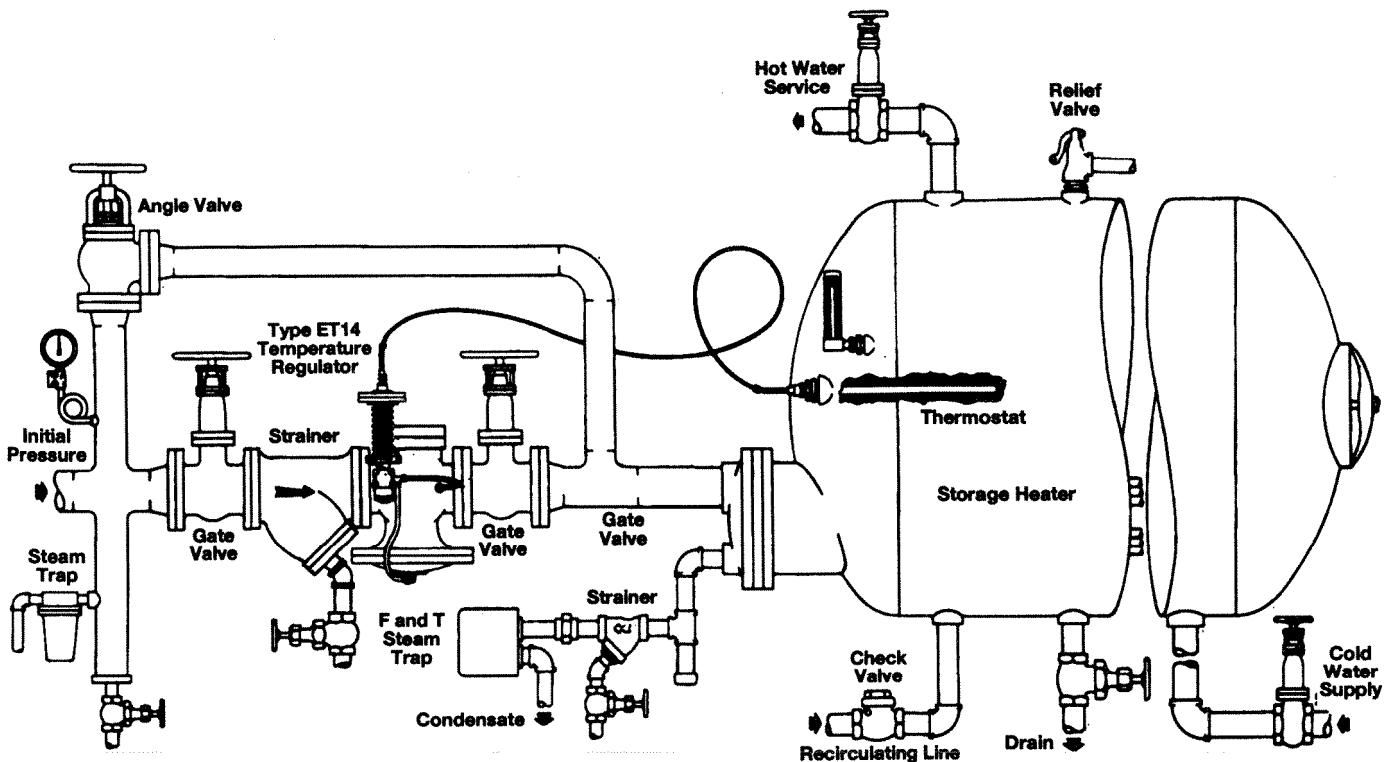
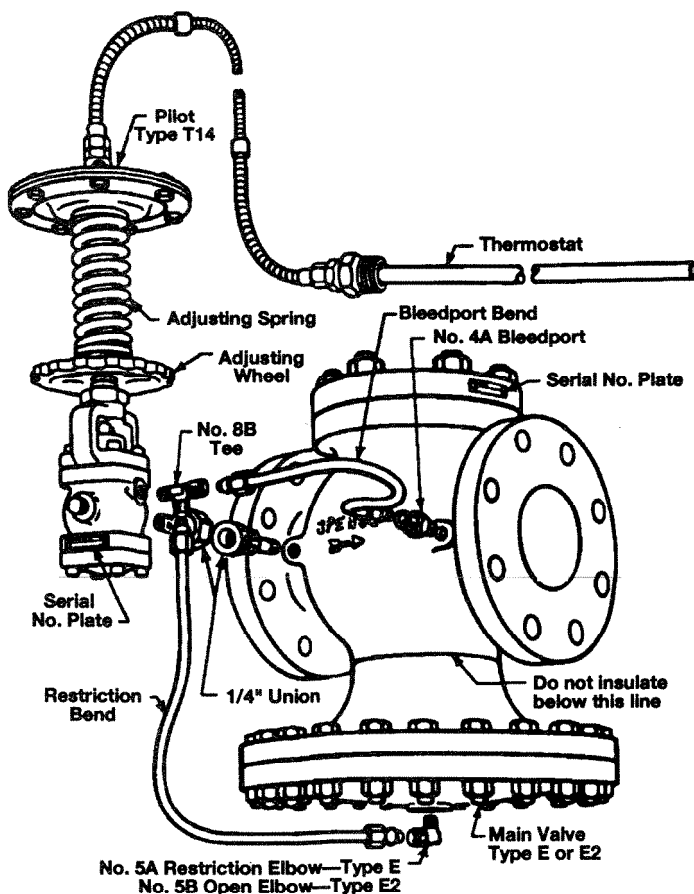
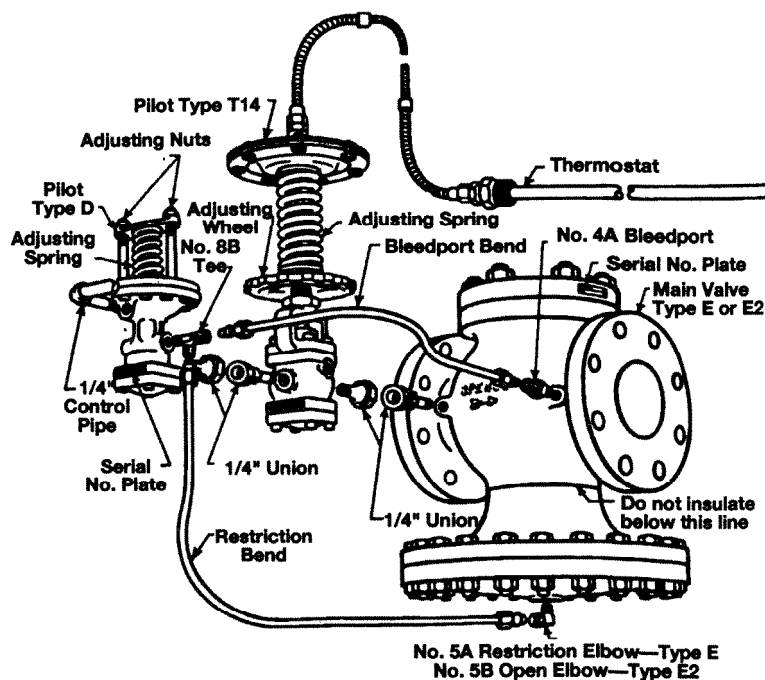

FIGURE 1
FIGURE 2
FIGURE 3
When steam is turned on, it flows to the pilot through the connecting nipple and union (see Fig. 1). At the No. 8B tee on the pilot outlet, the flow divides. One branch is connected to bleedport No. 4A and the other to restriction elbow No. 5A and the underside of the main valve diaphragm. Bleedport No. 4A restricts the flow, builds pressure under the diaphragm and opens the main valve. Restriction No. 5A steadies the operation of the regulator.
Mount the pilot on either side of the main valve by means of 1/4" nipple and union provided. Make this connection the the 1/4" pipe tap at the inlet side of the main valve as shown in Figure 2.
Connect tubing bends as illustrated in Fig. 2. Valves with condensation chamber are fitted up according to Figure 3.
Use 1/4" pipe for this line which connects the pilot pressure diaphragm chamber (Fig. 2) to the desired point of pressure control. On instantaneous heaters with steam in shell, tap the control pipe into the shell. Otherwise, enter the delivery steam pipe at point of entrance to heater. Pitch the control pipe away from the pilot and avoid water pockets. Insulation may be applied to the upper portion (globe and flanges) of the main valve. Do not insulate the diaphragm chamber or any part of the pilot (Fig. 1).
**For ET14:** Close bypass and open outlet stop valve. Blow down strainer. Gradually open inlet stop valve. Turn temperature adjusting wheel (Fig. 1) to obtain desired control temperature.
**For ET14D:** Close bypass, open 1/4" control pipe valve and turn up the temperature adjusting wheel (Fig. 1) until 1/2" of thread is exposed. Back off pressure adjusting screw to remove all compression from D Pilot adjusting spring.